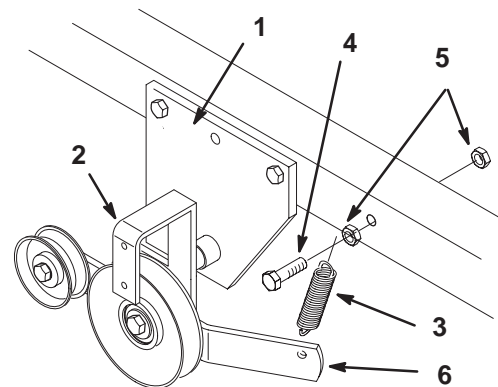

Figure 17
8. Open mid-mount hitch and insert rod of idler bracket (Fig. 17).
9. Slide spring onto bolt (3/8 x 1-3/4 inch) and thread on first lock nut (3/8 inch) (Fig. 17). Place bolt through hole in frame, just in front of mid-mount hitch, and secure with a lock nut (3/8 inch) (Fig. 17).